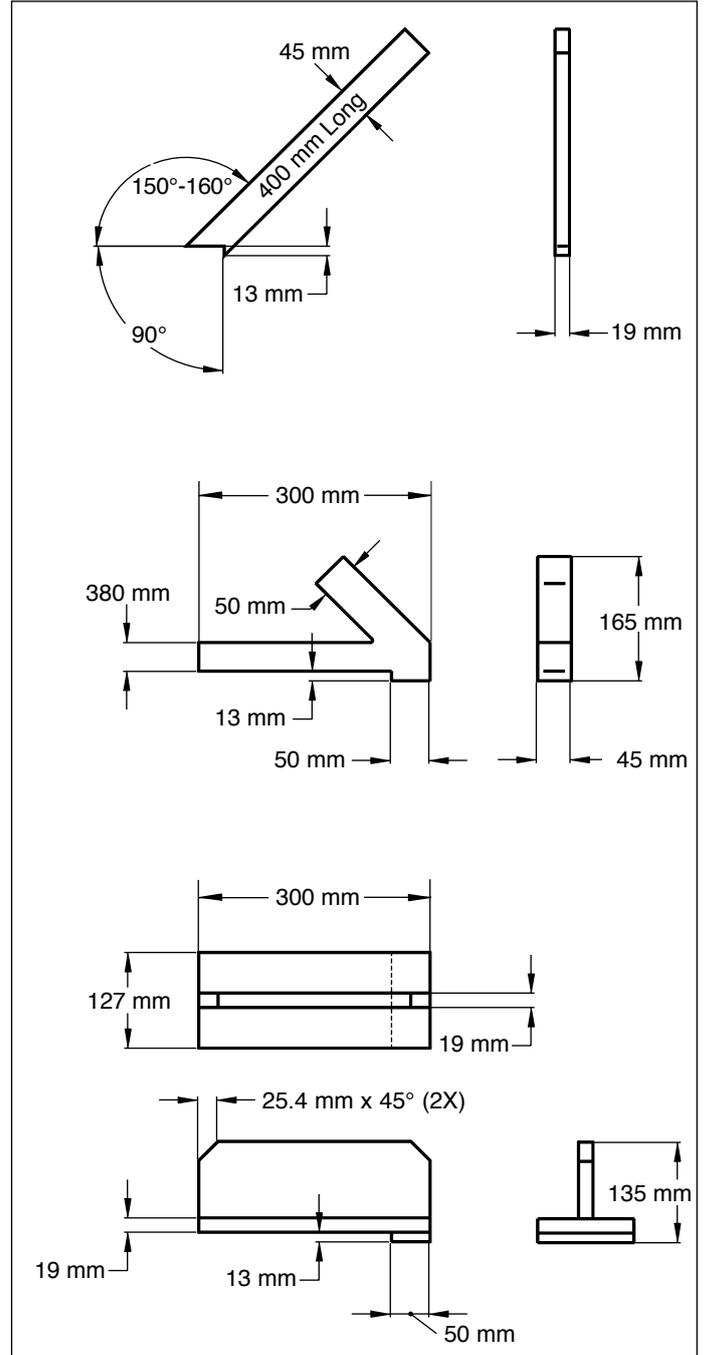

Figure 1a - Example: Push Sticks and Push Blocks
- During rip and rip-type cuts, workpiece must be held down on table and against fence with a push stick, push block, or featherboards, as applicable (see Figures 1a and 1b, pages 3 and 4).